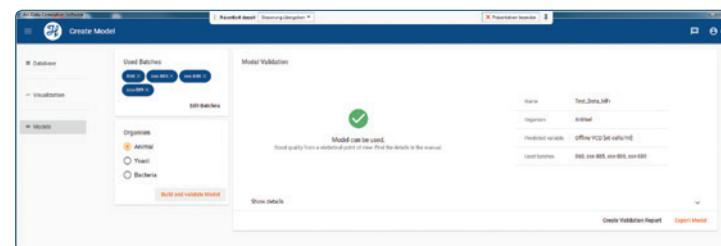

Figure 54: Quality Indicator
- The successful creation is indicated by a traffic light (figure 54):